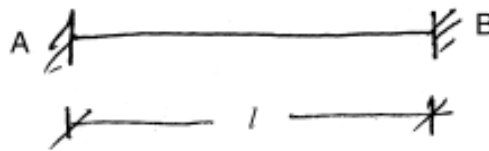

Figure 1
1. Draw ILD for R_A , R_B , M_A and M_B of fixed beam shown in figure 1. 12